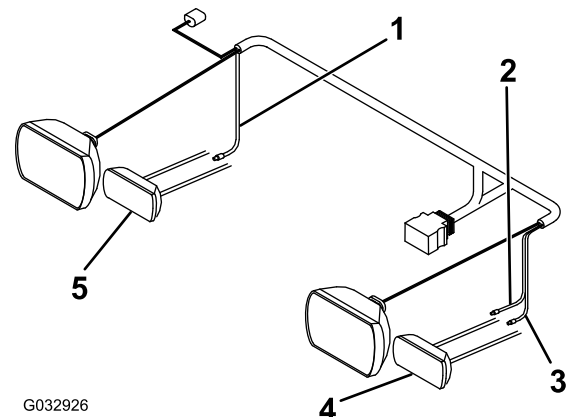

Figure 15
5. Connect the pink wire from the long wire harness to the right turn signal wire using a splice connector (Figure 15).
6. Connect the violet wire from the long wire harness to the left turn signal wire using a splice connector (Figure 15).
7. Connect the yellow wire from the long wire harness to the left park light wire using a splice connector (Figure 15).